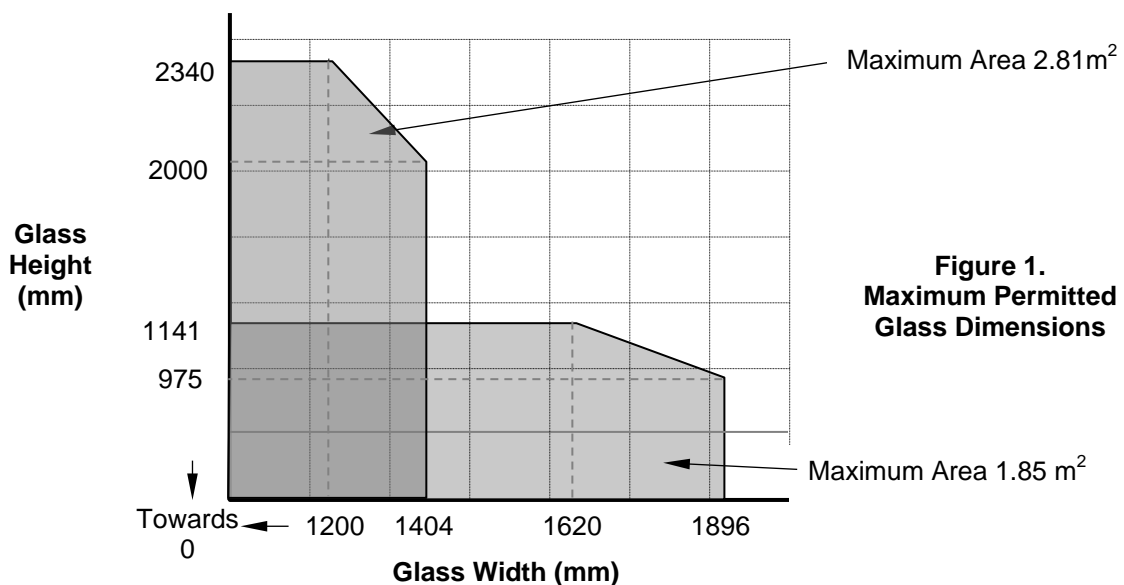

Figure 1.
This Certificate of Approval relates to the sizes of PYRANOVA® S2.0.7 glass shown in Figure 1 below, when used in conjunction with the above system. Other CERTIFIRE approved glazing seals may be acceptable subject to the limitations within the relevant certificate. The aspect ratio of the glass may be unlimited within these aperture dimensions. **Note:** the glass in this application may be utilised as an IGU but in this case the non-fire rated glass component **MUST** be orientated to the fire exposed face of the screen.
- Other CERTIFIRE approved glazing seals may be acceptable subject to the limitations within the relevant certificate. This Certificate of Approval relates to the sizes of PYRANOVA® glass shown in Figures 1 and 2, when used in conjunction with the above system. The aspect ratio of the glass may be unlimited within these aperture dimensions.